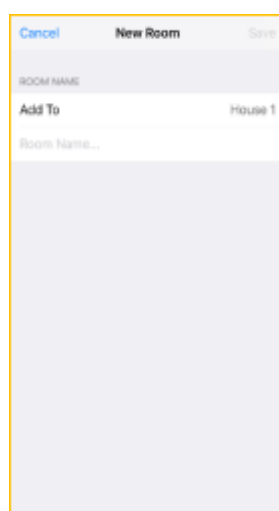

Figure 22
10.6.3. Fill in the required fields (Fig. 22).